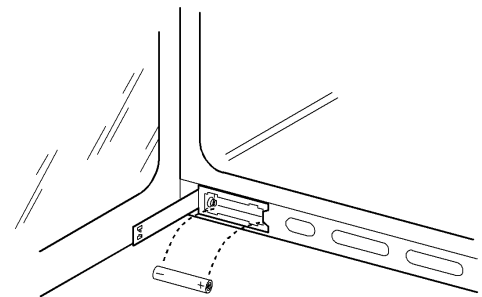

Fig.4
3. Fit the new battery ensuring (+) terminal is next to the (+) sign on the battery. See Fig.4.